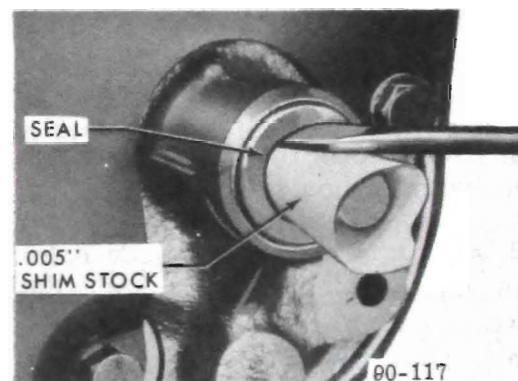

Figure 90-78 Removing Oil Pump Shaft Seal
6. Remove seal by cutting metal body of seal with a sharp tool and prying out. See Figure 90-78. *Extreme care must be used to prevent damage to shaft and pump housing.*